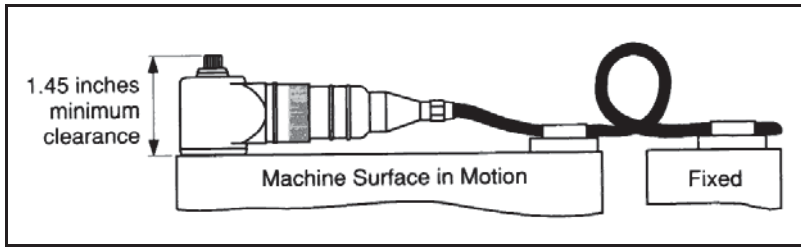

Figure 2 : Securing the cable
- Anchor the cable to reduce stress at the cable terminations. When securing the cable, leave enough slack to allow free movement of the velocity sensor as shown in Figure 2.